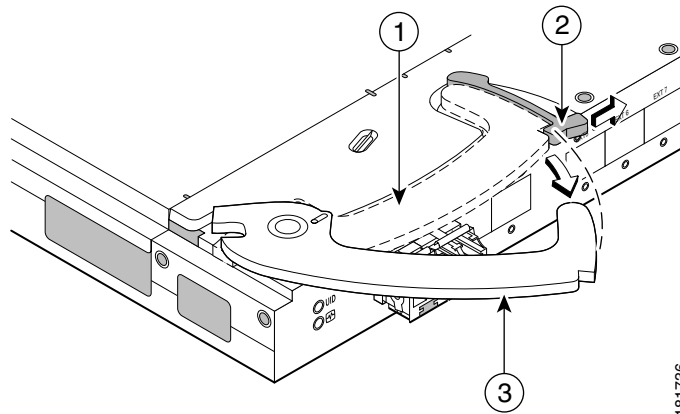

Figure 4 Releasing the installation handle
3. Press the handle latch to release the installation handle. See Figure 4 and Table 6.